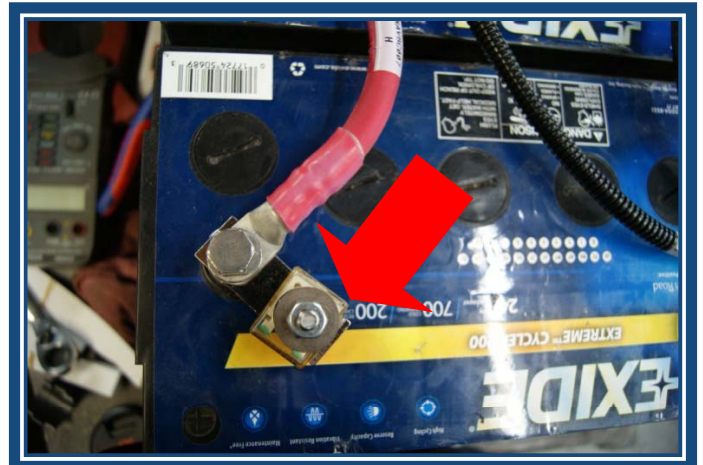

Figure 11
Step 11: Install the fuse cube assembly to the positive post of battery A. (See Figure 11)